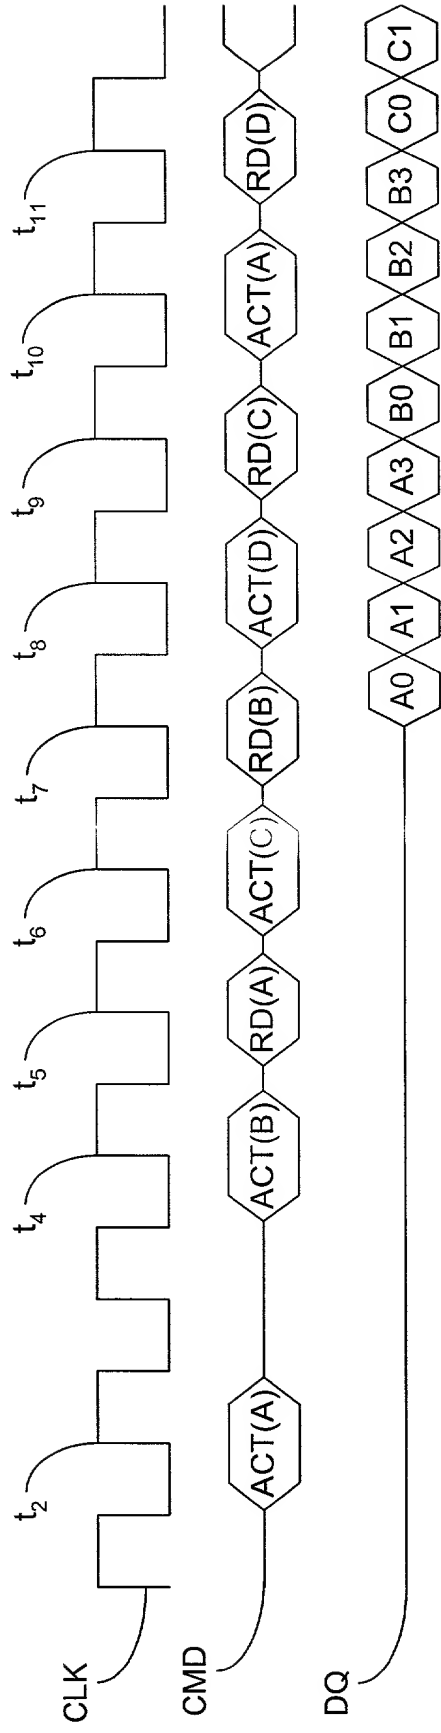

FIG. 18
FIG. 18 is a timing diagram illustrating the sequence of operations for the memory device. The diagram shows the relationship between the clock signal (CLK), the command signal (CMD), and the data signal (DQ) over time. The operations are performed in a sequence of 12 clock cycles, labeled t₂ through t₁₁.